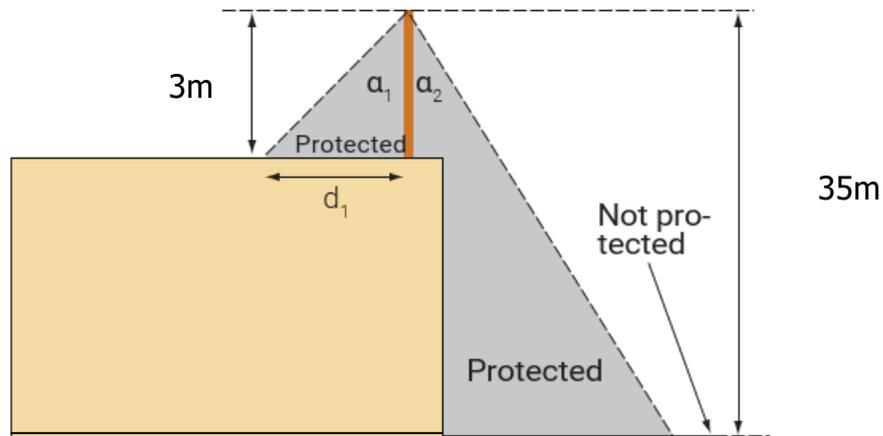

Figure Q2.1: Office Building
- (b) In your Lightning Protection Design for an office building as shown in Figure Q2.1, the lightning risk assessment indicated that it requires a Lightning Protection Level II to protect the building against lightning.
- (ii) Determine the appropriate angles α_1 and α_2 with reference to Figure Q2.1.